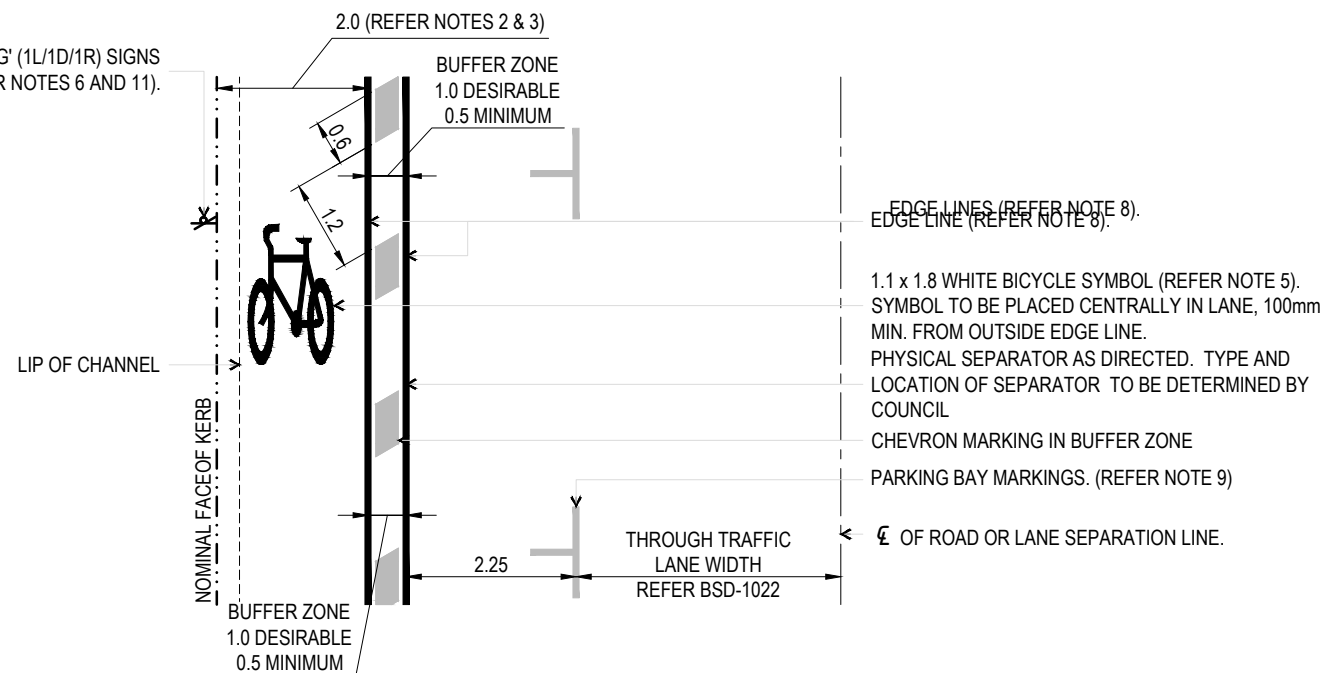

FIGURE 3
4. FIGURE 3 CROSS-SECTION ONLY TO BE USED IN LOCATIONS AGREED BY COUNCIL